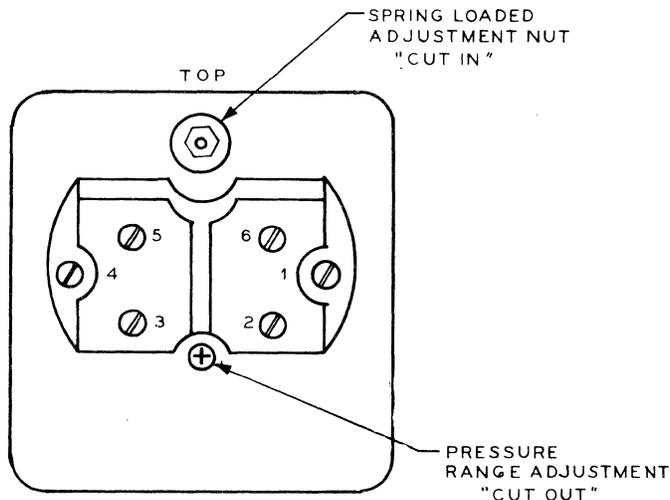

FIGURE IV-2
2. Low pressure "cut in" - slowly reduce the reserve air pressure using the safety relief valve. When the pressure falls to 31 PSI ± 1 , the compressor should start. The "cut in" pressure is controlled 11/32" hex nut at the top of the switch assembly - Refer to Figure IV-2. The switch actuation point can be raised or lowered by increasing or decreasing the tension on the spring respectively.
3. The "cut out" adjustment is controlled by the phillips head screw which is recessed in the center of the assembly - Refer to Figure IV-2. This screw actually controls the range of pressure built up before the compressor is cut out. With the "cut in" set for 31 PSI, the range should vary between 13 to 22 PSI. The adjustment for the System Memory should be for a range of 17 PSI giving a "cut out" pressure of 48 PSI. Turning the screw in a clockwise direction will increase the "cut out" pressure without affecting the "cut in" pressure.